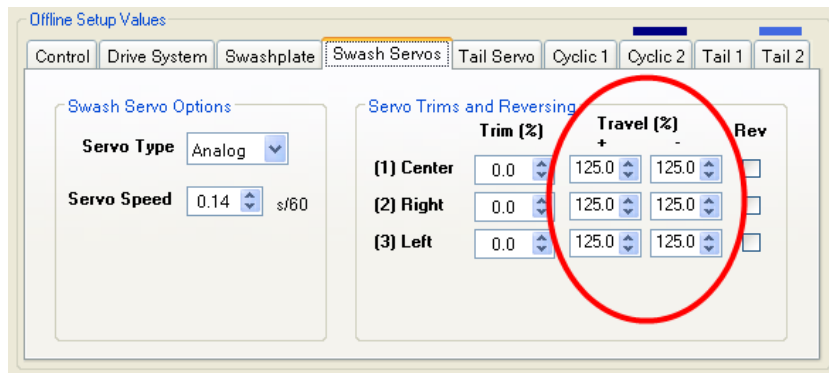

Figure 17.1 – Swash Servo Travel Adjustment Settings
- Set the collective pitch to maximum positive. The swash should still be level. If not, adjust the servo travels for one or two of the swash servos on the *Swash Servos* tab in the SK720's setup software. (See Figure 17.1 below)